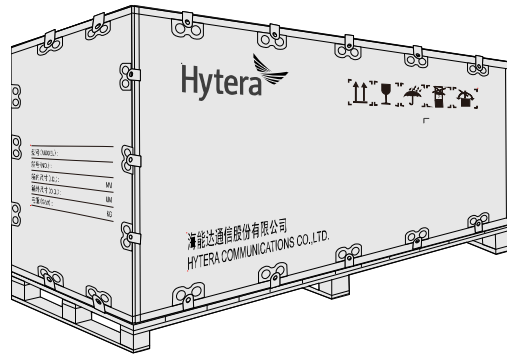

Figure 3-1 Laying the Wooden Case
Step 2 Lay the wooden case on the ground with the wooden frame facing downwards. See Figure 3-1.